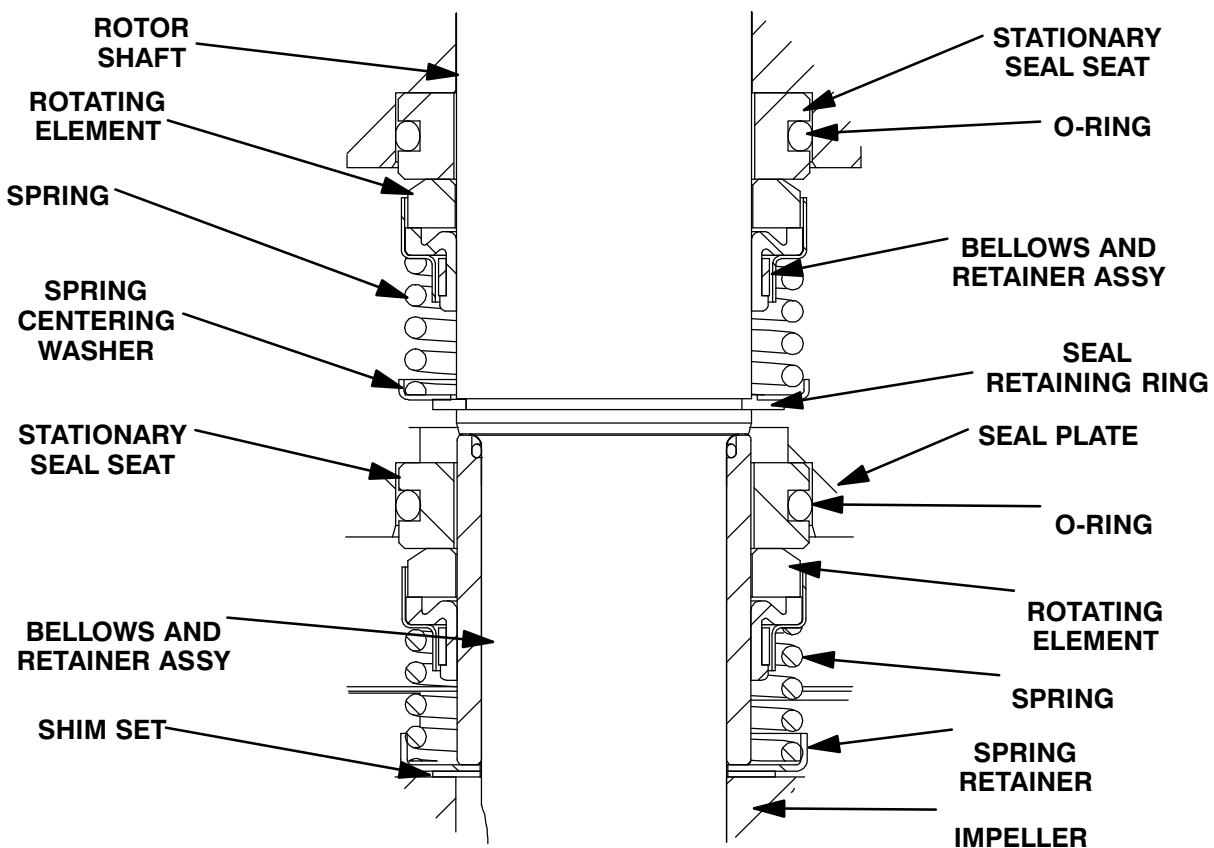

Figure E-3. Upper And Lower Seal Assemblies
Install the shaft seals as illustrated in Figure E-3.
Slide the seal spring over the shaft and bellows retainer and install the spring centering washer. Install the seal retaining ring (10). See Figure E-3 for the proper order of seal assembly.
Install the seal spring over the bellows retainer and install the spring retainer (24). See Figure E-3 for proper order of seal assembly.